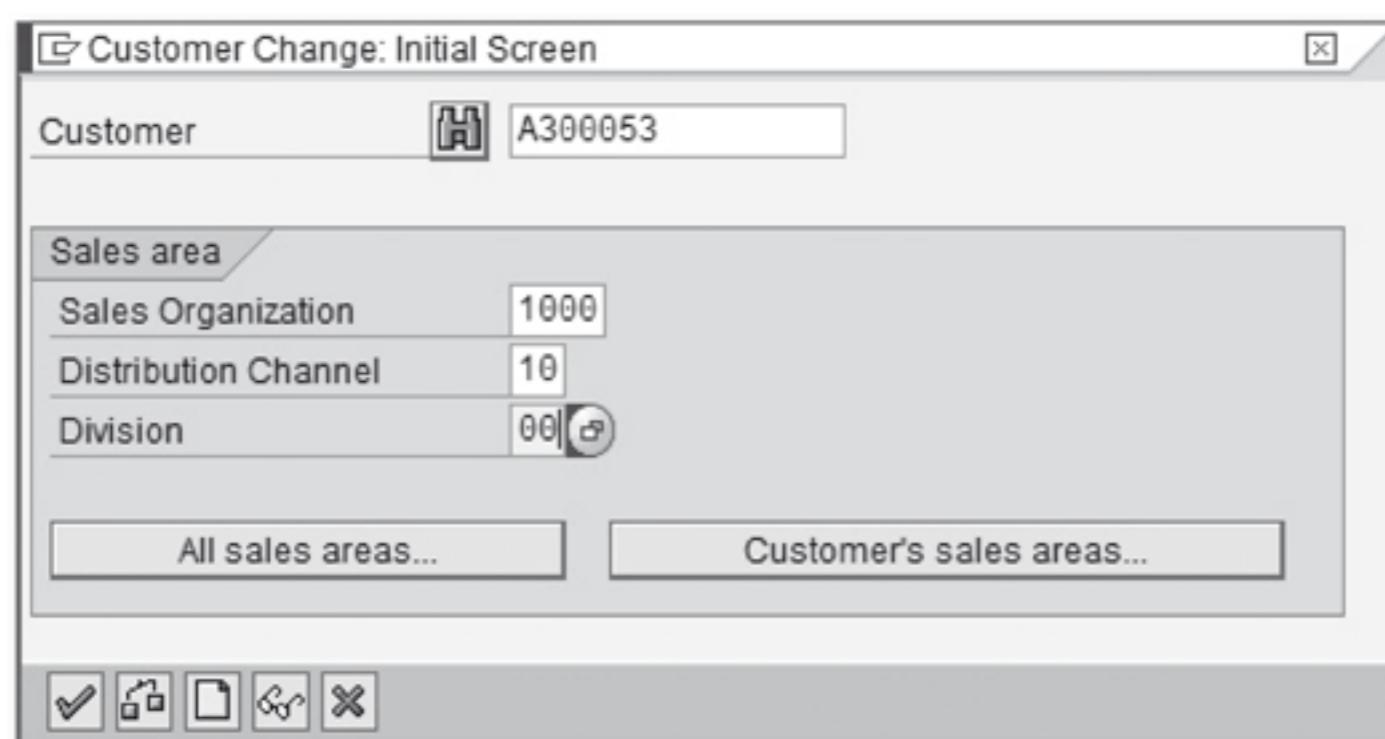

Figure 2.9 Customer Master Record Change Transaction Initial Screen
1. Follow the menu to edit customer information by using Transaction XD02 or VD02 (see Figure 2.9), or you can follow the menu path LOGISTICS • SALES AND DISTRIBUTION • MASTER DATA • BUSINESS PARTNER • CUSTOMER • CHANGE • COMPLETE.